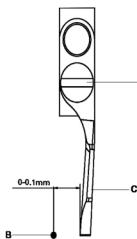

图16(Fig.16)
拧松螺钉 (A) ,调整护针使与机针的间隙为 $0-0.1\text{mm}$ (图16) 后再锁紧螺钉 (A)。
Loosen screw (A) to allow a gap of  $0-0.1\text{mm}$  between needles and needle Guide (Fig.16) then tighten screw (A)。
1.Put Loopers into Looper holder with screw (A) slightly tightened.(Fig.16)